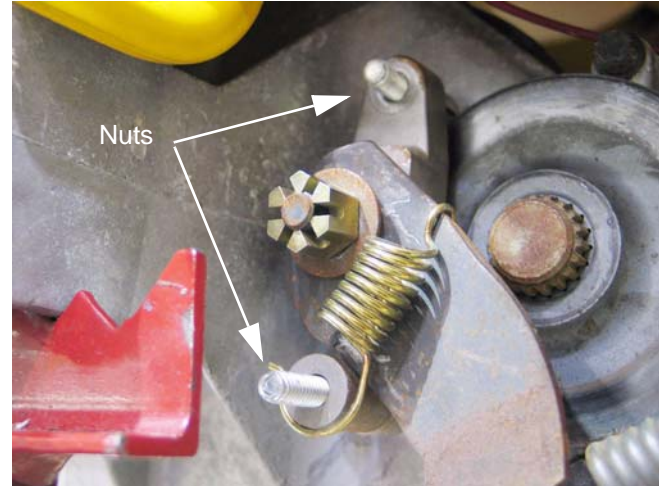

Figure 32.16
- 32.16. If the brakes are dragging or worn, or if the rotor needs to be removed from the shaft, remove the two nuts that hold the caliper to the transaxle using a 7/16" wrench. See Figure 32.16.